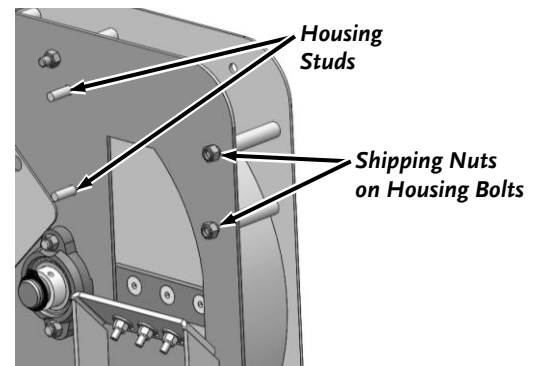

Figure 6
1. Remove the two shipping nuts, but leave the Housing Bolts loosely in place (**Figure 6**). Discard the shipping Nuts.